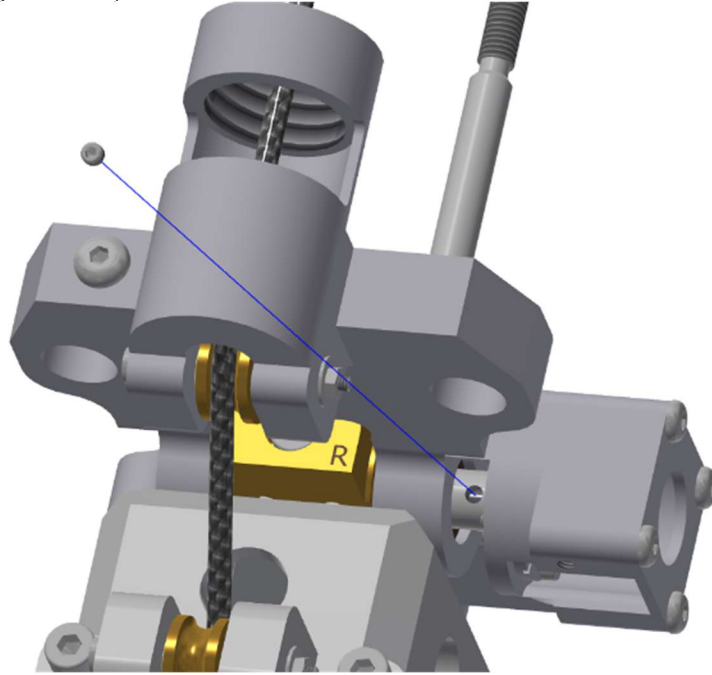

Figure 4-11. Remove the M3 X 0.5 X 3 LG. SSS Cone PT. from the OC potentiometer shaft
- 4.2.5 Remove the M3 X 0.5 X 3 LG. SSS Cone PT. from the OC potentiometer shaft (Figure 4-11).